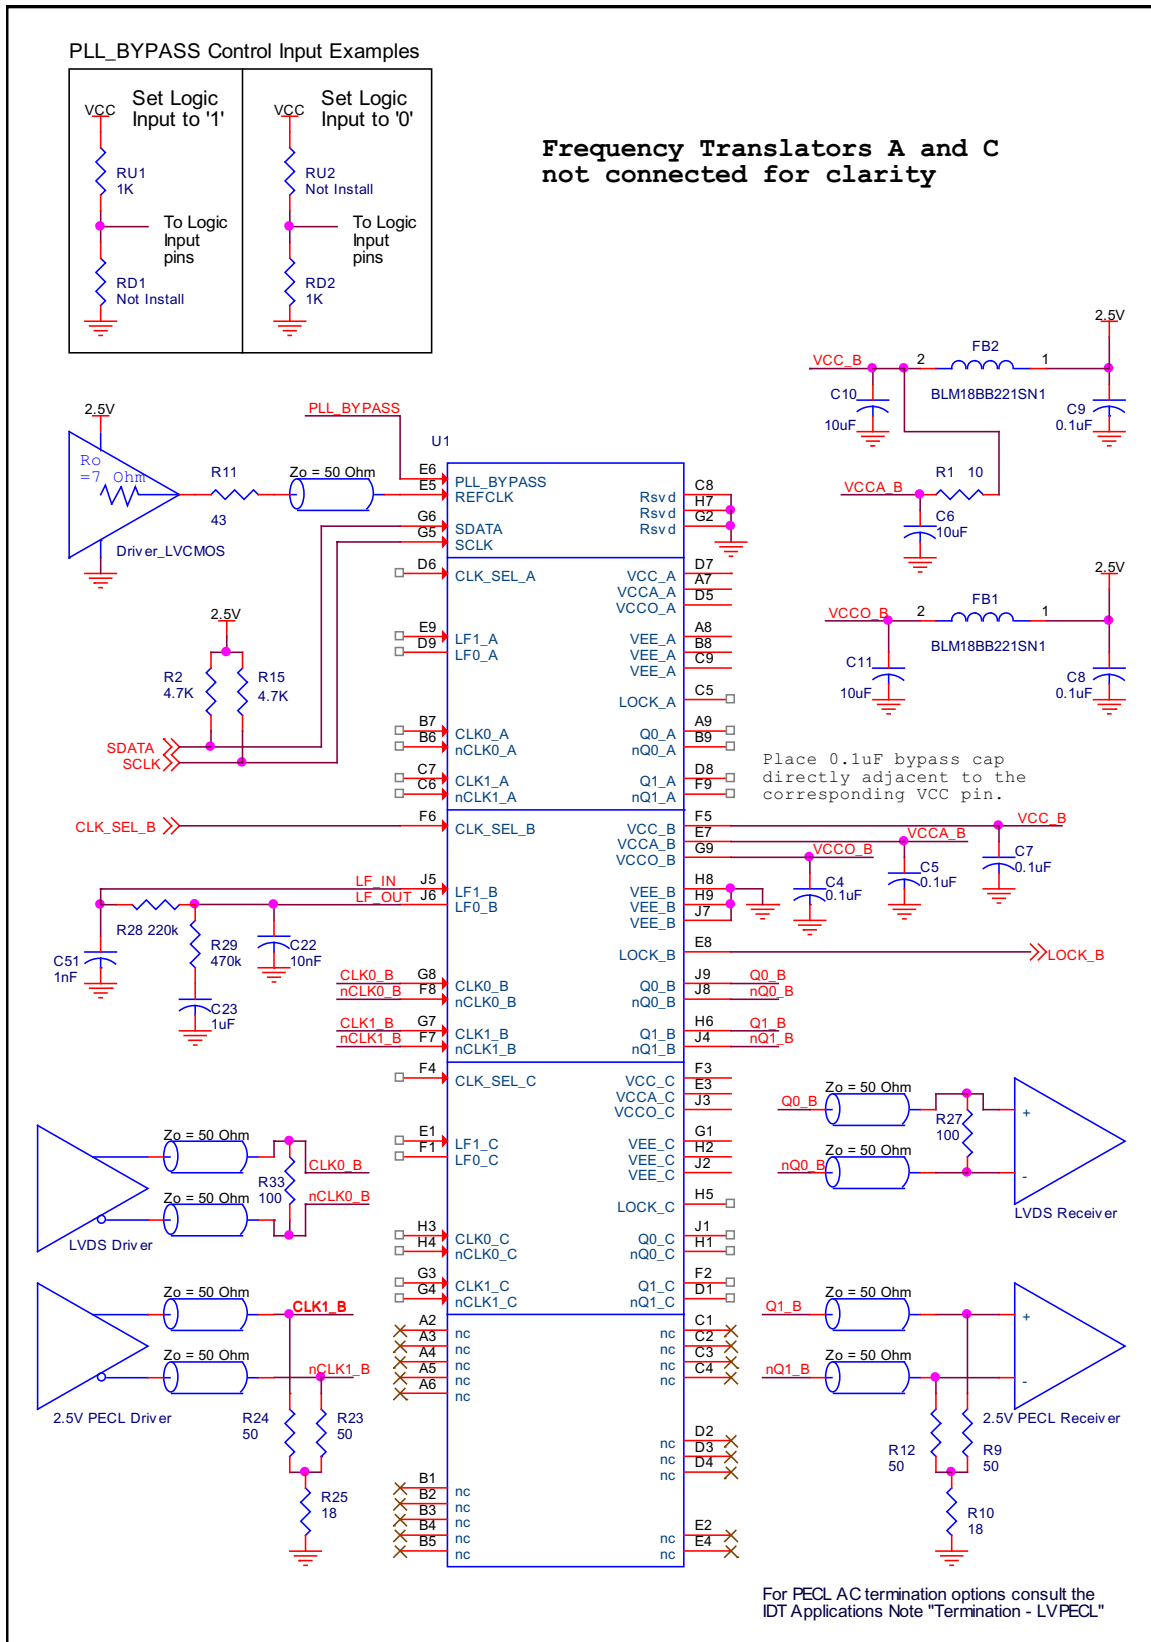

Figure 8. IDT8T49N366I Schematic Example
*Figure 8* shows an example IDT8T49N366I application schematic. The schematic example focuses on functional connections and is not configuration specific. Refer to the pin description and functional tables in the datasheet to ensure that PLL\_BYPASS and CLK\_SEL\_x pins are properly set. Input and output terminations shown are intended as examples only and may not match the exact user application. To promote readability in this schematic, only Jitter Attenuator B and the global pins PLL\_BYPASS, REF\_CLK and SDATA and SCLK are shown connected. Jitter Attenuators A and C are recommended to be connected similarly to Jitter Attenuator B; however different connections may be used as the four jitter attenuators are fully independent.